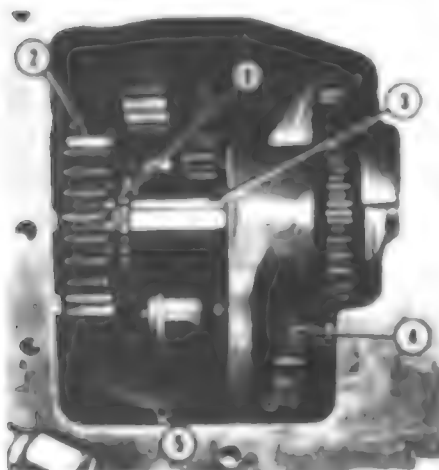
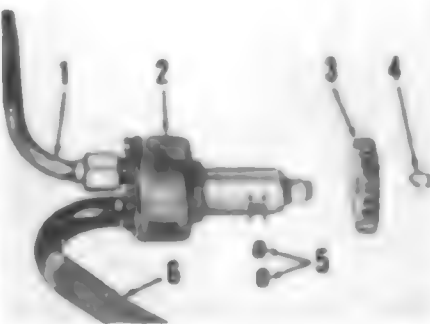

Fig. 85 - View of the lube pump on Models 684, 784 and 884 with the MCV removed.
Fig. 86 - Lube pump removed from Model 684, 784 or 884. Internal parts are not serviceable.
To remove the lube pump, drain "Hy-Tran" fluid from all compartments. Then, remove the multiple control valve (MCV) and hydraulic pump assembly. With MCV removed, disengage snap ring (1 - Fig. 85) and slide gear (2) to the rear. Remove the one cap screw that holds the screen assembly (5) to the pump. Remove the tube nut on line (1 - Fig. 86). Unbolt and remove pto clutch cover from right side of rear frame. Remove snap ring (4), gear (3) and set screws (5) that secure pump in position. Pull pressure tube (1) towards the MCV side enough to remove the pump.